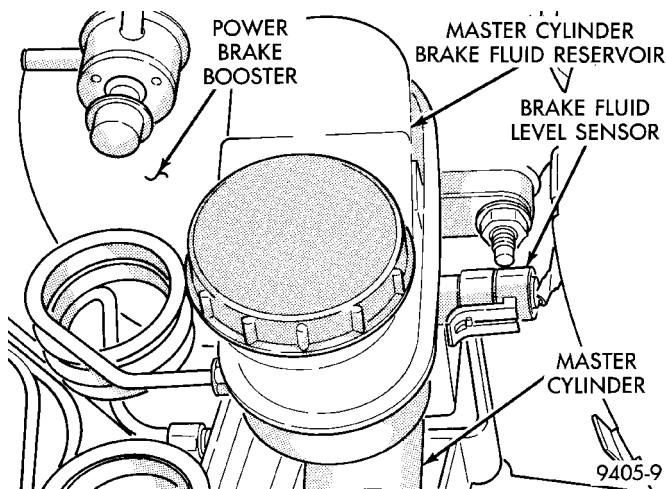

Fig. 12 Master Cylinder Brake Fluid Level Sensor
(1) Disconnect negative (ground) cable from the battery and isolate cable.
(2) Disconnect vehicle wiring harness connector from brake fluid level sensor at base of master cylinder brake fluid reservoir (Fig. 12).
(17) Install the wiring harness connector on the master cylinder reservoir brake fluid level switch (Fig. 12).
(18) Bleed the base brakes and the ABS brakes hydraulic systems. Refer to Bleeding Base Brake Hydraulic System in Service Procedures of the Base Brake Section and Antilock Brakes Hydraulic System Bleeding Procedure in Service Procedures of the Antilock Brake Section for the required procedures.
(19) Road test vehicle to ensure proper operation of the base and ABS brake systems.